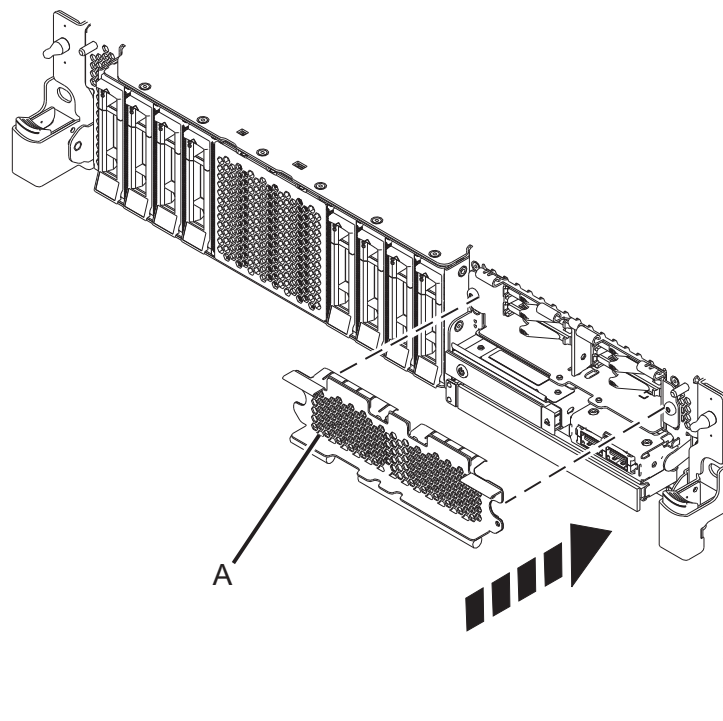

Figure 81. Covering the SSD cage in an expanded function system
9. If applicable, cover the SSD cage with the perforated plate (**A**) as shown in Figure 81.